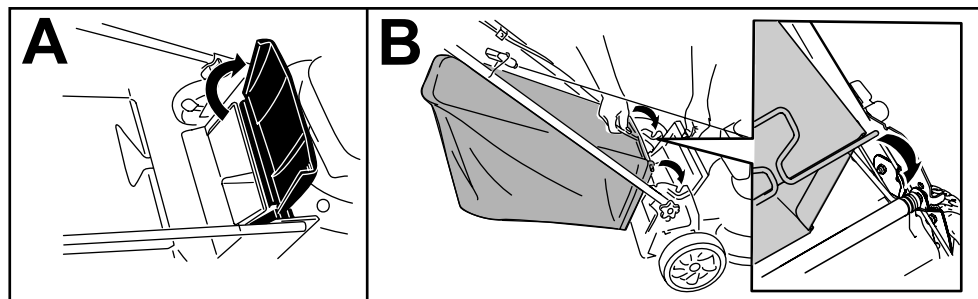

Figure 18
1. Raise and hold up the rear deflector (A of Figure 18).
2. Install the grass bag, ensuring that the pins on the bag rest in the notches on the handle (B of Figure 18).